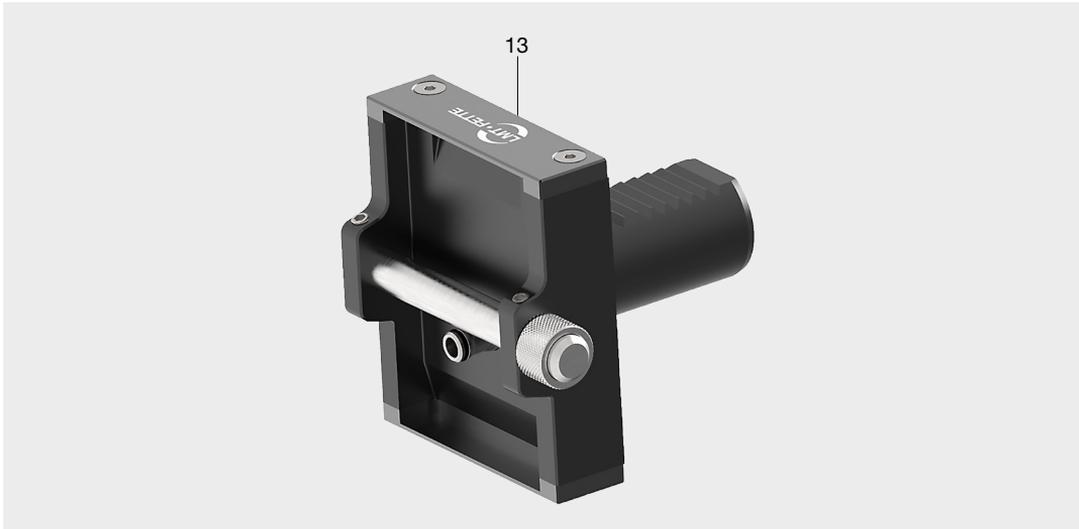

Figure 4: Example of a rolling head holder according to DIN 69880
We recommend using the rolling head holder with a chip guard (see Figure 4, No. 13) to protect the area between the rolling head and the rolling head holder.
- VDI according to DIN 69880 (Example in Figure 4)